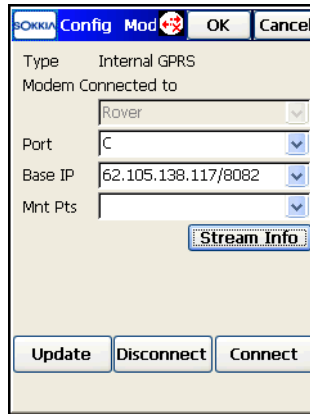

Figure 4-45. Config Modem
13. Tap **Setup GPS ▶ Status**. Select **Config Modem** from the Help Icon menu in the upper-left corner of the *Status* screen to make a connection (Figure 4-45 on page 4-36).